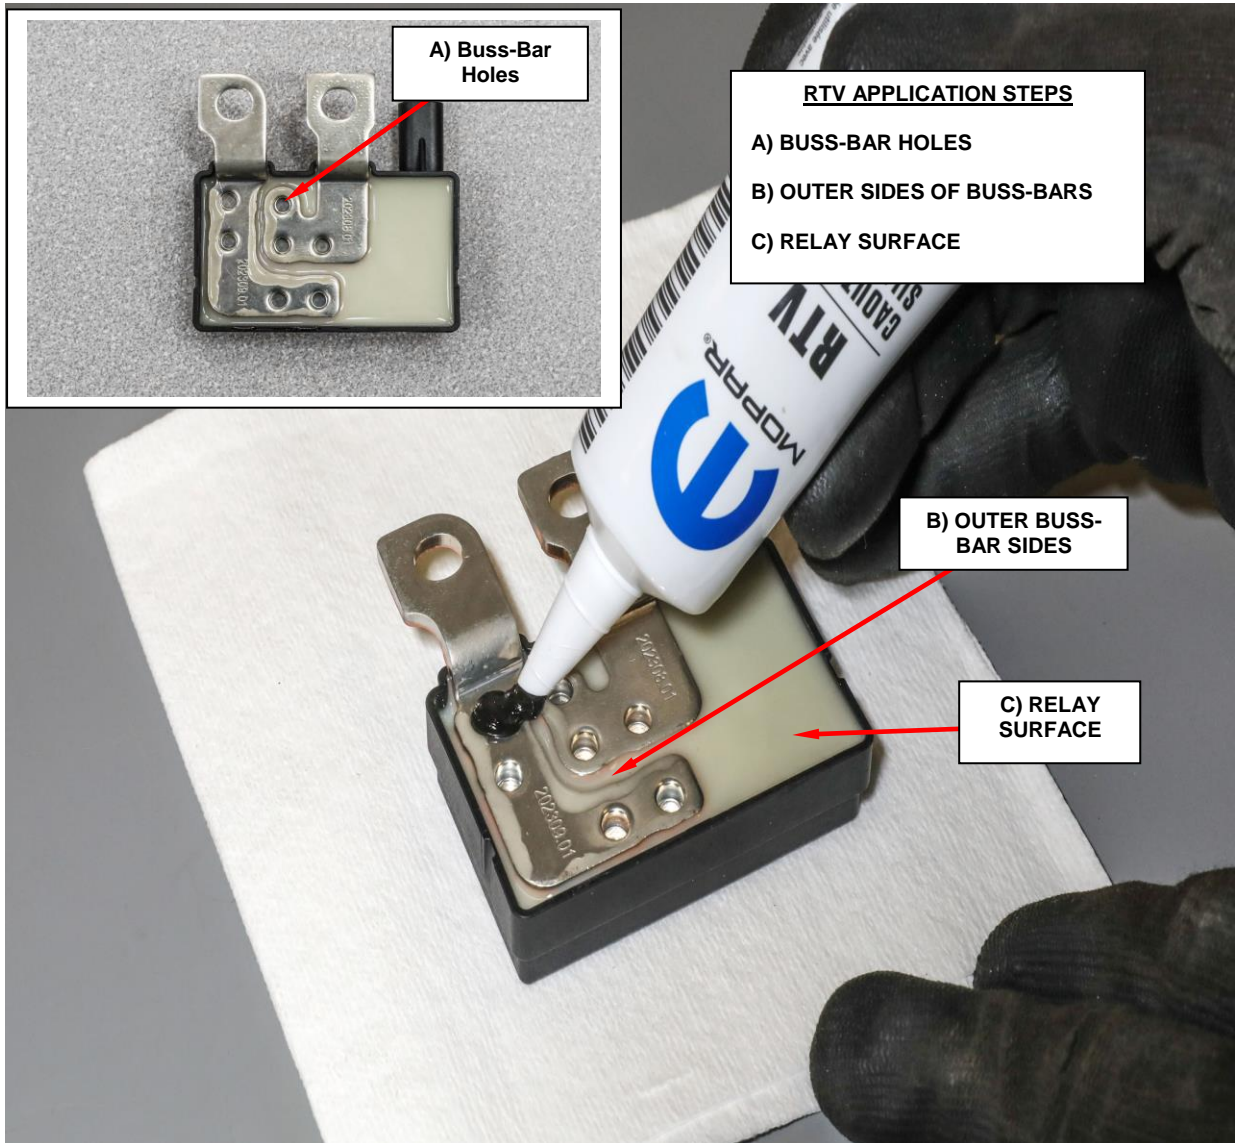

Figure 4 – RTV Application Procedure
7. Remove the intake air heater relay by tilting relay forward and away from the studs then set on a clean surface with the back of the relay facing up (Figure 4).
9. Initiate the application of the RTV by: **A)** applying the RTV on the buss bar holes then **B)** apply to the outer sides of the buss-bars and **C)** finally on the remaining surface of the relay (approximately 2MM thickness) to cover the relay (Figure 4).